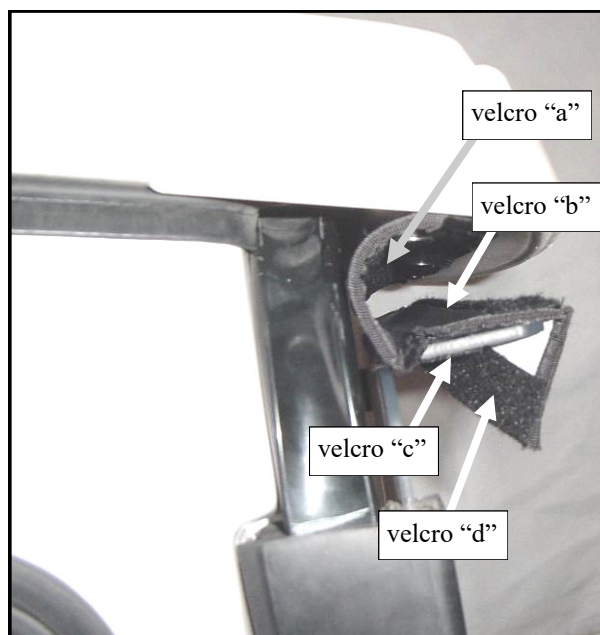
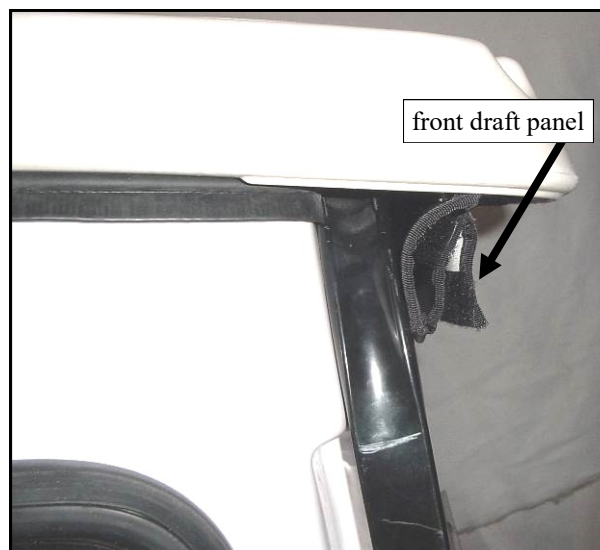

Fig. 7.3 (view taken from passenger's side)
Fig. 7.3.1 (view taken from passenger's side)
7.3 Fig. 7.3 shows the windshield in the up, closed position. The front draft panel is snapped in place and fitted around the narrow bent portion of the windshield so the velcro sections "c" and "d" are mated together (the photo shows them slightly peeled apart for illustration purposes). Velcro sections "a" and "b" are only used for storage up and out of the way when the top half of the windshield is folded down for ventilation (open). Figure 7.3.1 shows the front draft panel in storage mode.